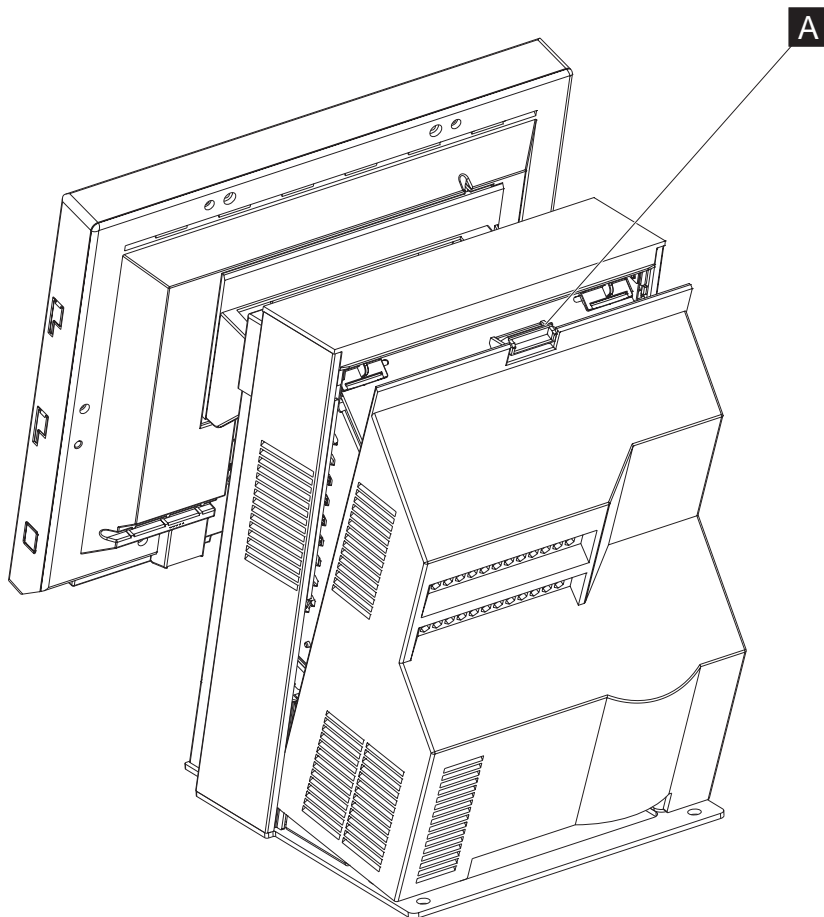

Figure 8. Removing the rear cover
2. Facing the rear of the system, press down on the latch (**A** in Figure 8), and pull downward to remove.